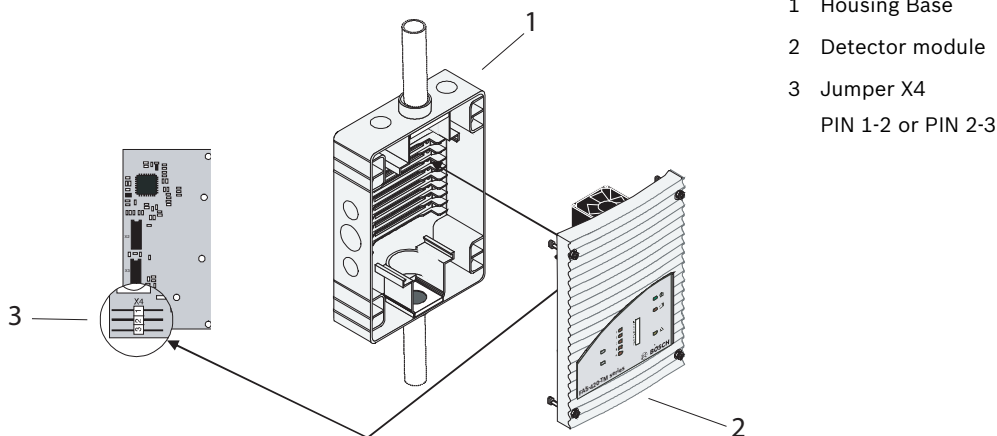

Figure 6.1 Inserting the detector module into the housing base
2. Replug the X4 jumper when inserting the detector module (PIN 1-2 or PIN 2-3, or vice versa). Replugging will cause airflow calibration to be carried out automatically (see *Figure 6.1*).